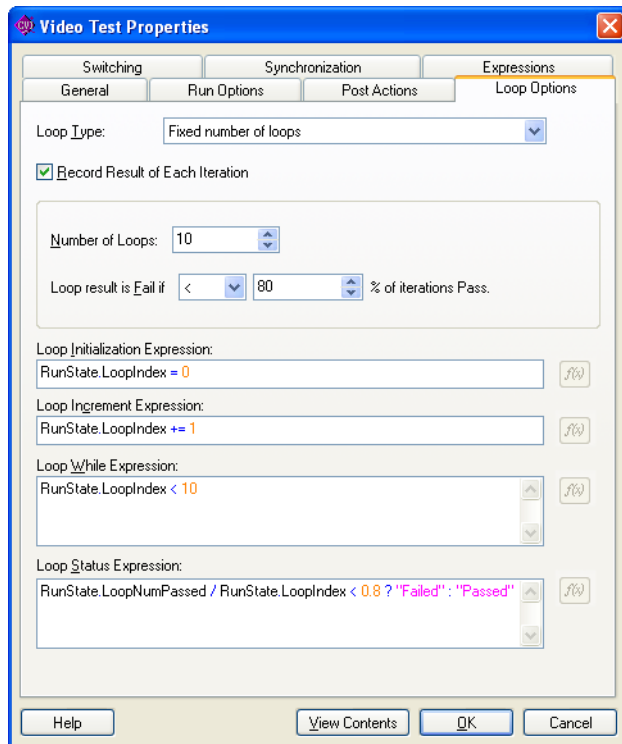

Figure 4-10. Loop Options Tab
6. Click the **Loop Options** tab, which is shown in Figure 4-10. Use this tab to configure an individual step to run repeatedly in a loop when it executes.
Using these settings, TestStand executes the Video Test step ten times and sets the overall status for the step to `Failed` if less than eight of the ten iterations pass. Figure 4-10 shows the completed Loop Options tab.